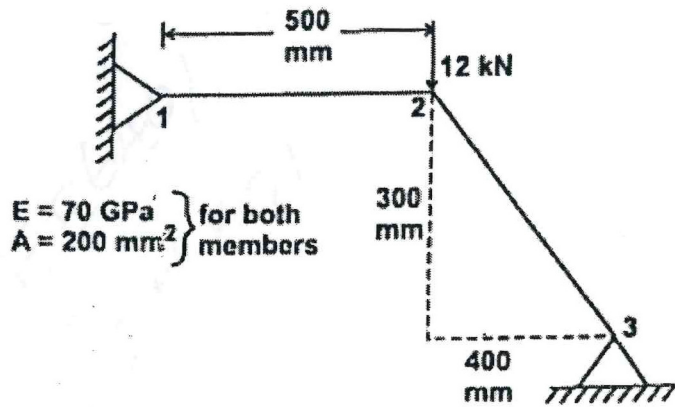

Fig.5
16. a) For the two bar truss as shown in Fig. 5 determine the displacements at node 2 and the stresses in both elements.